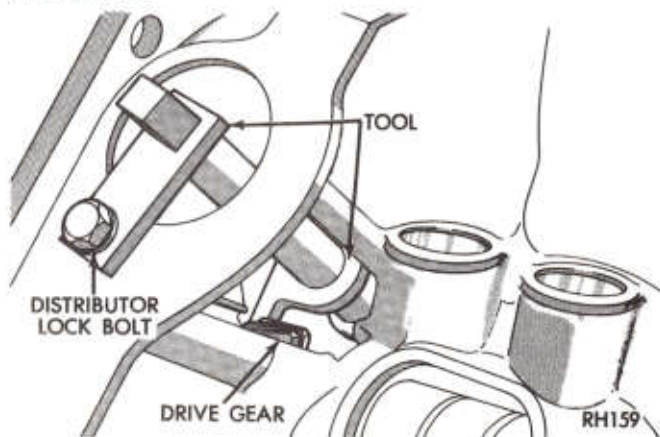
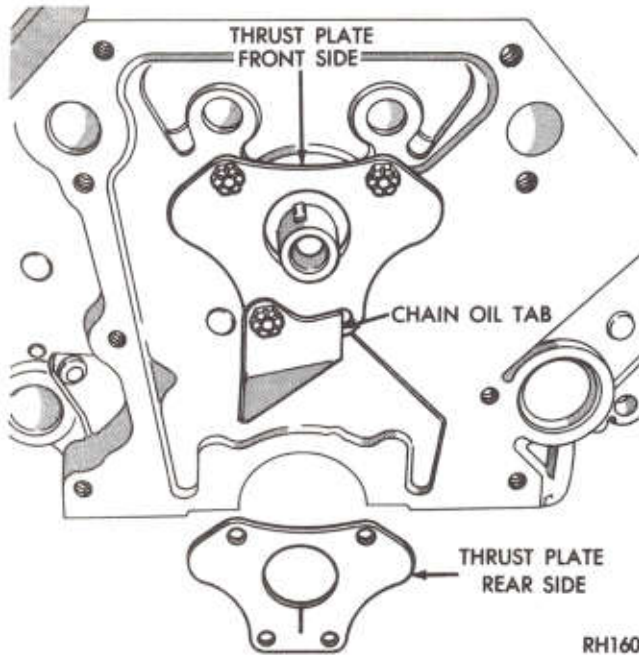

Fig. 33—Camshaft Holding Tool C-3509 in Installed Position
Fig. 34—Timing Chain Oil Tab Installation
(1) Remove rocker arm and shaft assemblies.
(2) Remove push rods and tappets; identify so each part will be replaced in its original location.
(3) Remove distributor and lift out the oil pump and distributor drive shaft.
(4) Remove camshaft thrust plate, **note location of oil tab (Fig. 34).**
(5) Install a long bolt into front of camshaft to facilitate removal of the camshaft; remove camshaft, being careful not to damage cam bearing with the cam lobes.
(2) Install Tool C-3509 with tongue back of distributor drive gear (Fig. 33).
(3) Hold tool in position with a distributor lock plate screw. This tool will restrict camshaft from being pushed in too far and prevent knocking out the welch plug in rear of cylinder block. **Tool should remain installed until the camshaft and crankshaft sprockets and timing chain have been installed.**
(4) Install camshaft thrust plate and chain oil tab, with three screws as shown in (Fig. 34). **Make sure tang enters lower right hole in thrust plate.** Tighten to 210 in. lb. (24 N·m). Top edge of tab should be flat against thrust plate in order to catch oil for chain lubrication.